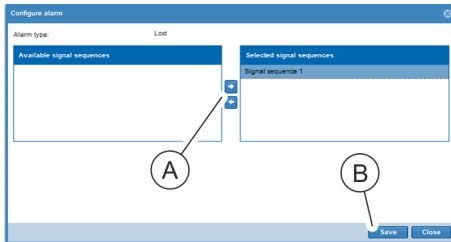

Fig. 126: “Configure alarm” window
7. ➤ Select a signal sequence in the “Configure alarm” window and use the “→” button (Fig. 126/Ⓐ) to move it into the “Selected signal sequences” field. Confirm the selection by clicking the “Save” (Fig. 126/Ⓑ) button.